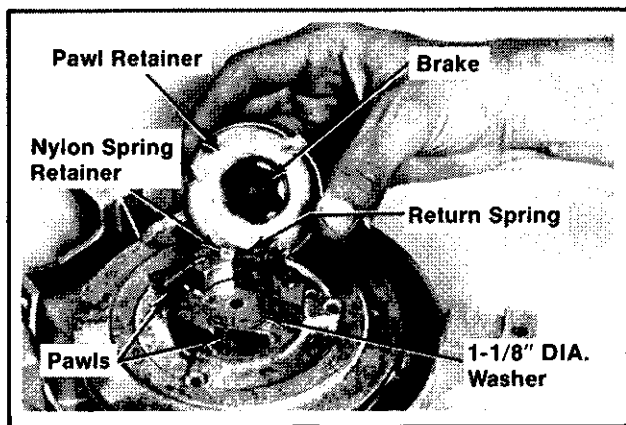

Figure 7-20. Installing Pawls, Pawl Retainer, And Related Components.
5. Install the starter pawls into the appropriate pockets in the pulley. Refer to Figure 7-20.